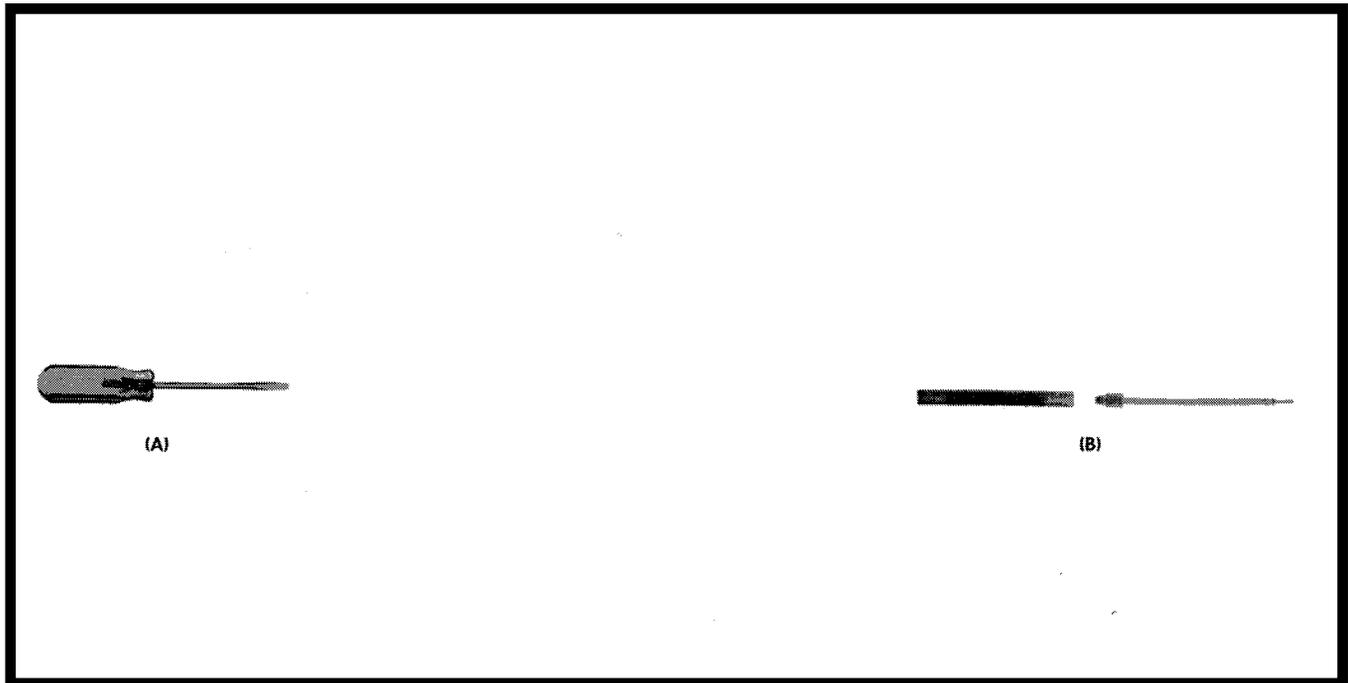

Fig. 6-3. Recommended adjustment tools.
20. Two (2) adapters, BNC male to N female2. Tektronix Part No. 103-0058-00.
21. Two (2) adapters, BNC female to N male2. Tektronix Part No. 103-0045-00.
**Adjusting Tools.** See Fig. 6-3.